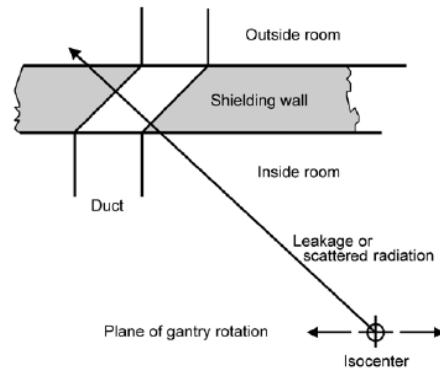

Fig. 4.3. Duct penetration with least amount of concrete removed along path of primary radiation.
- (1). the least amount of concrete is removed by the duct in the direction of the radiation beam (Fig. 4.3)
- (2). the direct radiation passing through the duct aperture is minimized.